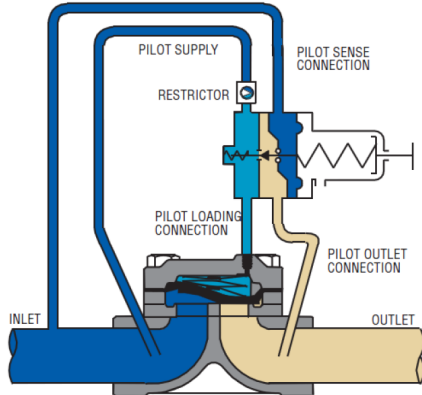

Figure 5
- **Single Cut Relief:** The regulator acts as a relief device, opening to vent excess pressure directly when a pilot set point is reached. In this configuration the pilot supply and pilot sense both come from the upstream (Figure 5). When the inlet pressure is high enough to overcome the spring force the pilot unloads the regulator to flow and relieve gas. Back pressure/relief applications require different pilot internal designs or sometimes alterations to pressure reducing pilots to function in back pressure/relief application. Flexible elements ensure sensitive and accurate relief action but must be checked regularly for set point accuracy.